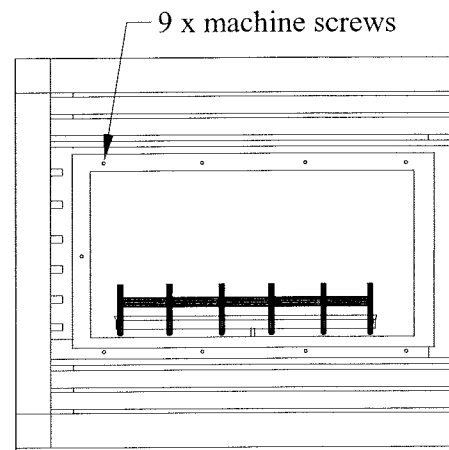

Figure 16. *Removing inner doors.*
The inner (combustion) doors are located behind the outer decorative doors. To remove the inner doors, simply unscrew the nine (9) machine screws on the top, bottom and side of the door. *(See figure 16).*